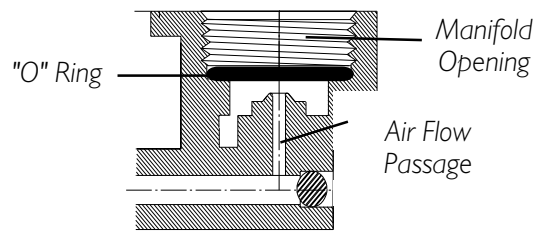

FIGURE 3 - REMOVING/INSTALLING "O" RINGS
REPLACING PILOT VALVE POPPETS AND "O" RINGS (FIGURES 3 & 4).
occur (FIGURE 3).**
12. Install NEW slotted poppet into the bottom of the pilot valve stem with tapered end facing to the bottom (FIGURE 3).